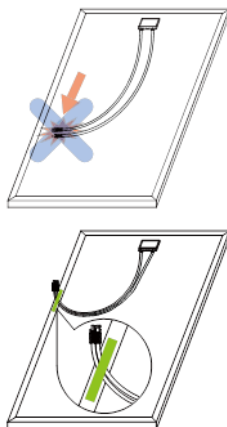

Figure 4. Fixing of cables and connectors
- To avoid the damage of the back sheet by the connector, fix the cables to the frame with tape after unpacking. (refer to Figure 4)